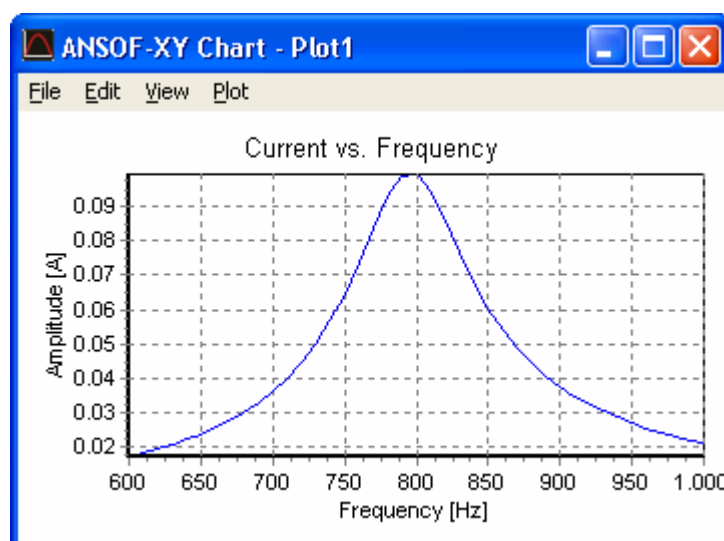

Fig. 14.18: Current amplitude vs. frequency in the RLC circuit.
Step 4: Select any of the three wires composing the circuit and follow the procedure described in Section 13.3 for plotting the current on a wire segment as a function of frequency, Fig 14.18. Due to the circuit topology, the electric current must be the same in the three wires. As can be seen, resonance occurs at a frequency near to 800 Hz. In fact, the value 796 Hz can be verified by simulating at this single frequency.